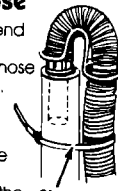

Figure 3
**C.** Wrap the strap around the drain hose, and secure as shown in Figures 3 Standpipe, 4 Tub, 5 in-wall standpipe.